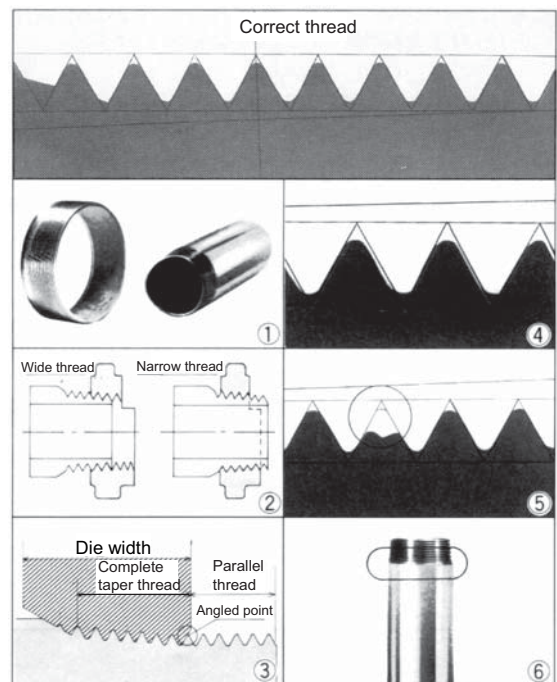

Fig. 60
- Irregular shaped threads (Fig. 60 - 1)
- The diameter of the thread is too small or too large (Fig. 60 - 2)
- Distorted threads (in the case of manual die heads) (Fig. 60 - 3)
- Threads are too small (Fig. 60 - 4)
- The thread is chipped (Fig. 60 - 5)
- Thread with uneven thickness (Fig. 60 - 6)